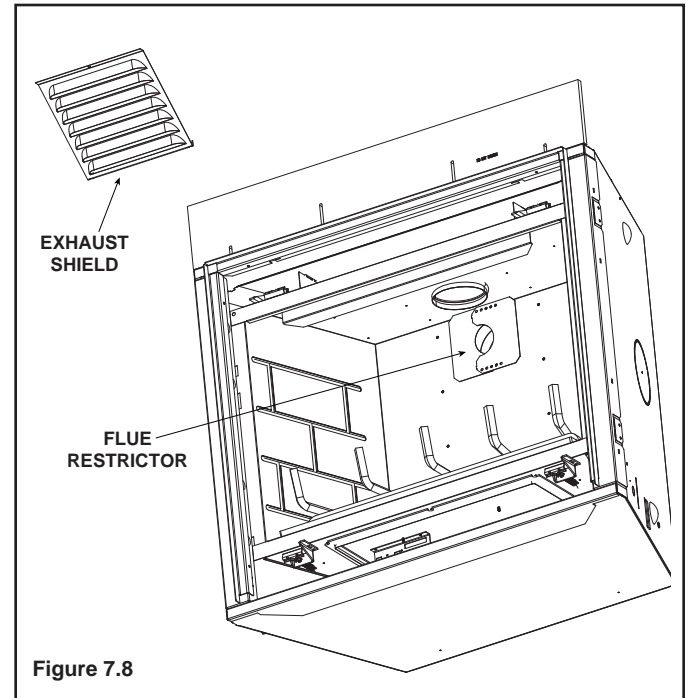

Figure 7.8
1. Remove exhaust shield using a 1/4 inch nut driver by removing the four screws securing it in place (see Figure 7.8).
- Center the Flue Restrictor on vent and secure in place by using two self-tapping screws (see Figure 7.8 and Figure 7.11).